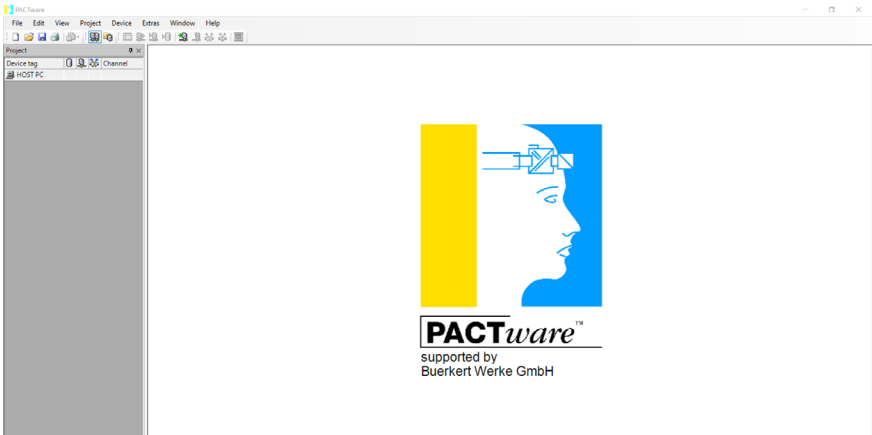

Figure 2: PACTware Home Screen
- 1. Double click on the PACTware icon the desktop to open the DTM. The main screen will be on display as shown in Figure 2.